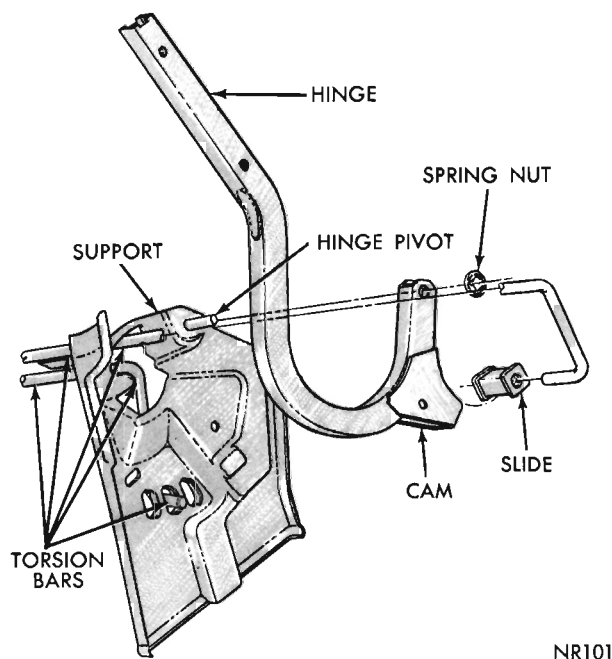

Fig. 40 - Deck Lid Hinge and Torsion Bar
The deck lid hinges (Fig. 40) permit only slight adjustment at the hinge attaching points. The hinge brackets are welded in place and are not adjustable.
- (2) Use care when disengaging a torsion bar as it is under a load. Disengage torsion bar roller from hinge being removed.
- (3) Remove spring nut retaining hinge to hinge bracket (Fig. 40) and remove hinge.